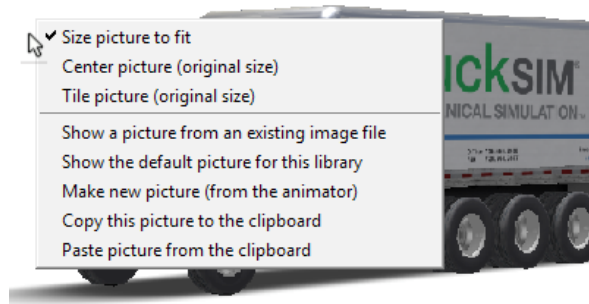

Figure 5. Pop-up menu for editing picture.
- ⑩⑨ 2D custom image for the dataset. This image provides a convenient reference for how the animated vehicle or target will appear when animated. The image can be created or copied by clicking on it to obtain a pop-up menu (Figure 5). It is typically created by choosing the option **Make new picture (from the animator)**. This launches the animator with the proper window size. You can adjust the view (zoom, rotate, pan, etc.). When the view looks OK, copy it to the Windows clipboard (e.g., type Ctrl+C). Then click on the image ⑩⑨ again and choose **Paste picture from the clipboard**. For more information about generating 2D images, please refer to the **Help** reference manual *VS Browser (GUI and Database)*.
- ⑩⑩ Checkbox for custom settings. When checked, a miscellaneous yellow field and miscellaneous blue link are shown. These are for advanced users to provide custom information for VS Visualizer.